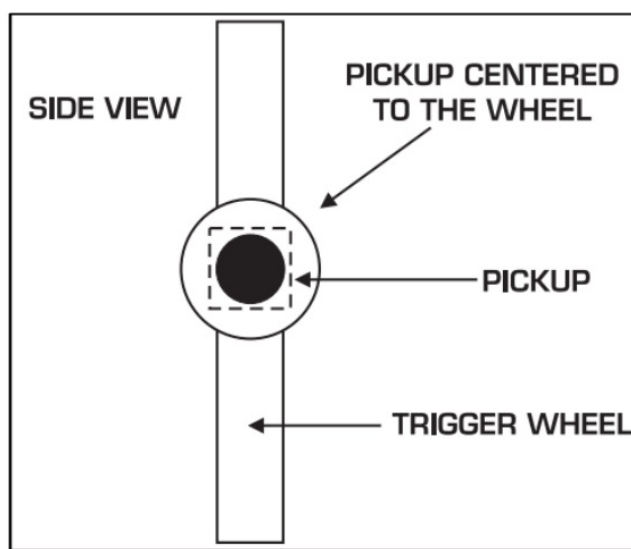

Figure 2: Pickup Centered on the Trigger Wheel.
2. Install the bracket onto the engine. The bracket goes installed on the passenger side of the balancer. Use the correct length bolts and shims in the proper location to insure the wheel is centered with the pickup. (Figure 2)